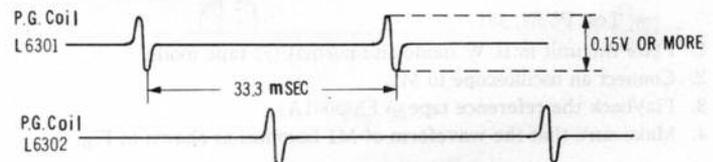

Fig. 1
3. Make sure that the output of both ends of P.G. coil becomes 0.15Vp-p or more as shown in Fig. 1.